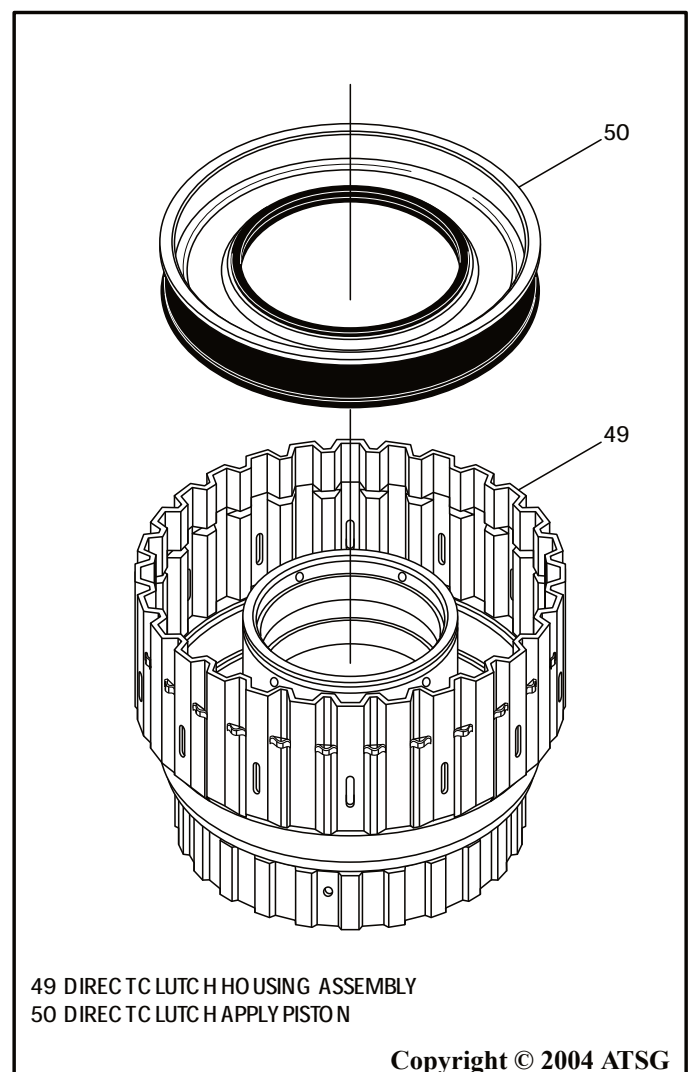

Figure 133
4. Place the direct clutch housing on a flat work surface, as shown in Figure 133.
6. Install the direct clutch piston into the direct clutch housing, as shown in Figure 133, using a slight twisting motion.